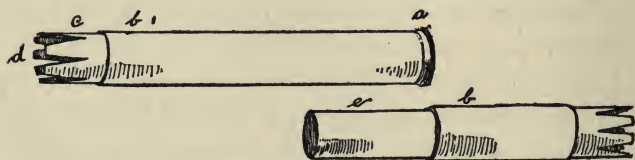

Fig 12.—Serrated Ferrules.
1. For split bamboo rods, welted and capped (or shouldered) ferrules, with the caps serrated so that the silk may be wound over the springy saw-tooth like ends illustrated in Fig. 12. The reference letter *a*